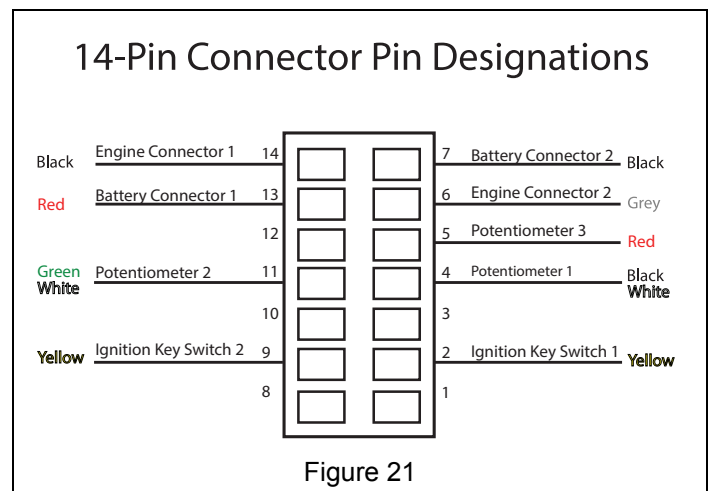
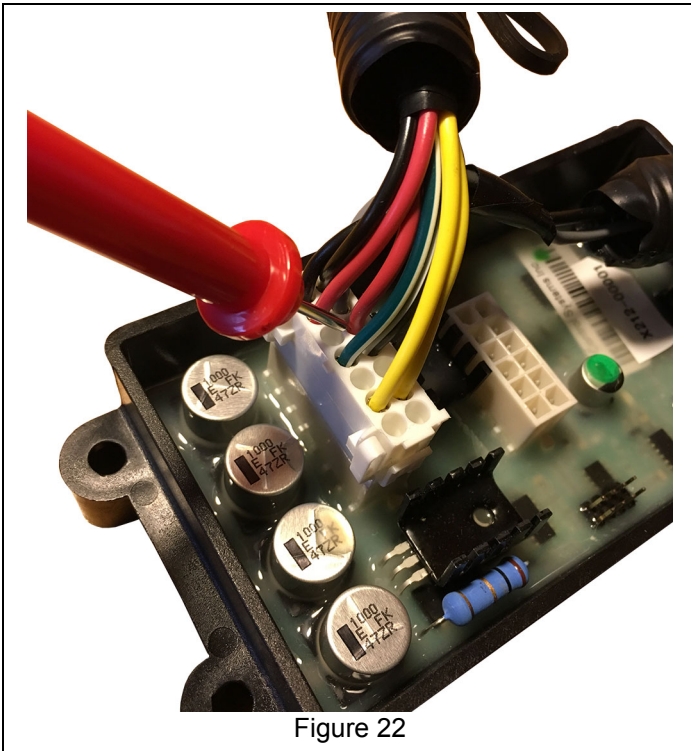

Figure 21
Figure 22
1. Set a multi-meter to ohms (Ω) and measure the potentiometer resistance. See Figure 21 and Figure 22.
- b. Position the red probe on the terminal of the red wire at the potentiometer (Pin 5 in Figure 21) and the black probe on the terminal of the green / white wire.
- b. Position the red probe on the terminal of the red wire at the potentiometer (Pin 5 in Figure 21). Also
see Figure 22.